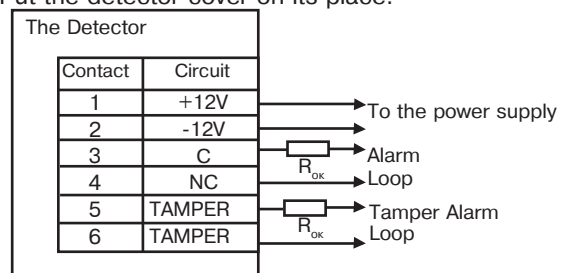

Figure 4 - Connection Diagram
- Fulfill connections in accordance with the connection diagram (Fig.4)